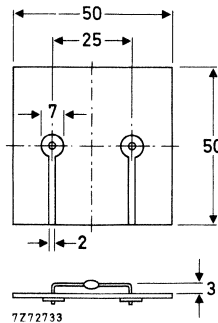

Fig. 2 Device mounted on a printed-circuit board.
2. Thermal resistance from junction to ambient; device mounted on an 1,5 mm thick epoxy-glass printed circuit board; Cu-thickness > 40 μm ; Fig. 2 (see "Thermal model")